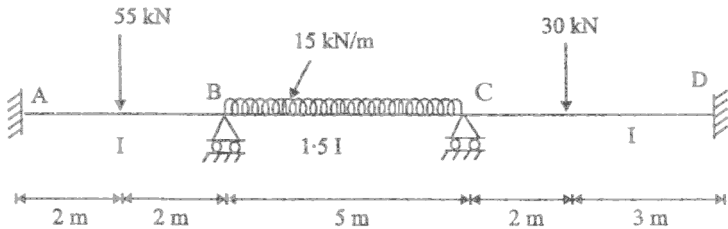

Fig. 2
- (b) Analyse the continuous beam shown in fig. 2. 15